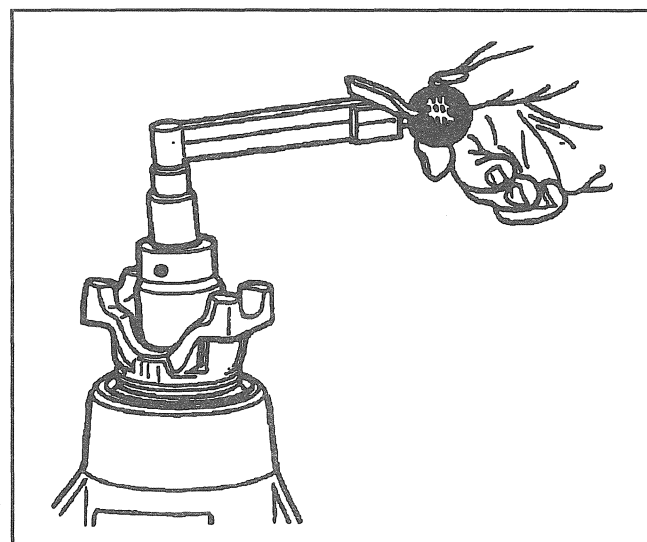

Figure 11—Checking Pinion Preload
- Remove J 8614-01. Using an inch-pound torque wrench, check the pinion preload by rotating the pinion with the wrench. Preload should be at or below 2.8 to 4.0 N·m (25 to 35 lb. in.) for new bearings, or 0.56 to 1.7 N·m (5-15 lb. in.) for used bearings (Figure 11).
10. Pinion cage (10) to the axle housing. Refer to "Pinion Installation" in this section.